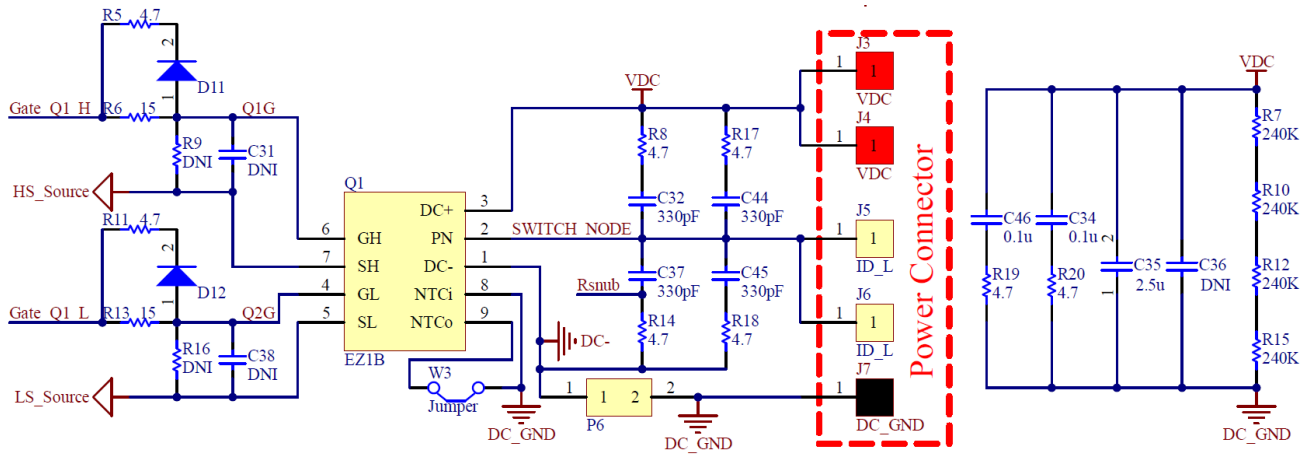

Figure 6. Half-bridge E1B Module DPT EVB Power Loop and Gate Resistor Network
**Gate resistors:** In Figure 6 R13 is turn-on gate resistor (Rgon) for low side switch. R11 is turn-off gate resistor (Rgoff) for low side switch. D12 is a steering diode to allow different Rgon and Rgoff values to help flexible design of turn-on and turn-off speed. For high side switch, R6 is the Rgon, R5 is the Rgoff, and D11 is the steering diode. R9 and
**Snubbers:** In Figure 6 both device snubber and bus snubber positions are reserved. For detailed function explanation please refer to the snubber configuration section above. R8, C32, R17, C44 are device snubbers for high side switch. R14, C37, R18, C45 are device snubbers for low side switch. R19, C46, R20, C34 are bus snubbers for the half-bridge.
**Current measurement:** current measurement is inserted in jumper P6 shown in Figure 6 for the low side switch. DUT current is measured at the source using a 1:10 turn ratio transformer followed by a Pearson 2877 Current transformer. The compact 1:10 transformer is constructed with a ferrite toroid (Ferroxcube TC9.5/4.8/3.2–3E27) core as shown in Figure 7. The Pearson 2877 transformer is connected to oscilloscope through a BNC cable with 1 M $\Omega$  termination. The Pearson transformer 2877 (1 V/A) has 200 MHz bandwidth. When used with the 1:10 transformer, the two-stage current transformer has an equivalent gain of 100 mV/A.